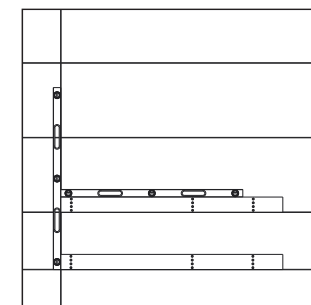

Figure 12: Repeat Stud Attachment Pattern
- Repeat the stud attachment pattern from the bottom row. Refer to **Figure 12**. Verify the tube is horizontally level and the tubes are plumb and level to each other by a tolerance of ±1/4" in the X-axis and by +1/4" -1/2" in the Y-axis. Y-axis tolerance for the top tube is ±1/4" to prevent the tube from extending above the top of the display.